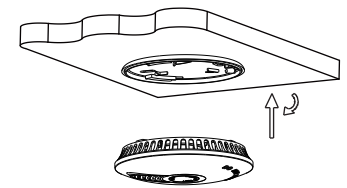

Figure 10
- 7, Align the keyhole cover with the lock on the base, and tighten the main body of the alarm clockwise to the bottom cover (Figure 10).